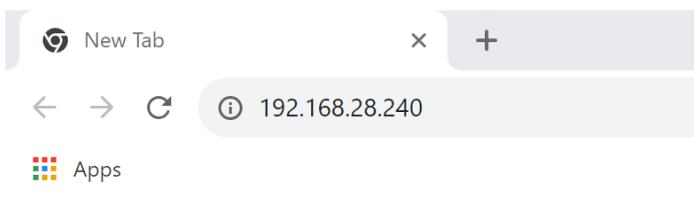
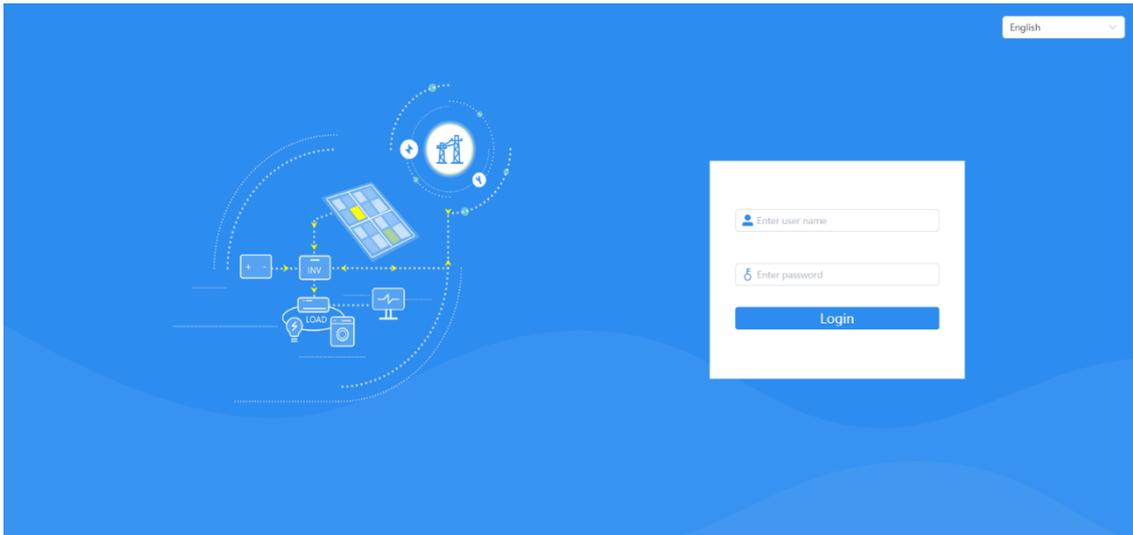

Figure4-2 Visit the IP of PCS
Figure4-3 Login page
- Step 1 Open the browser (Google Chrome browser is recommended to use), enter the IP address 192.168.28.240 into the search box (as shown in Figure4-2), click Enter button to enter login page (as shown in Figure4-3).